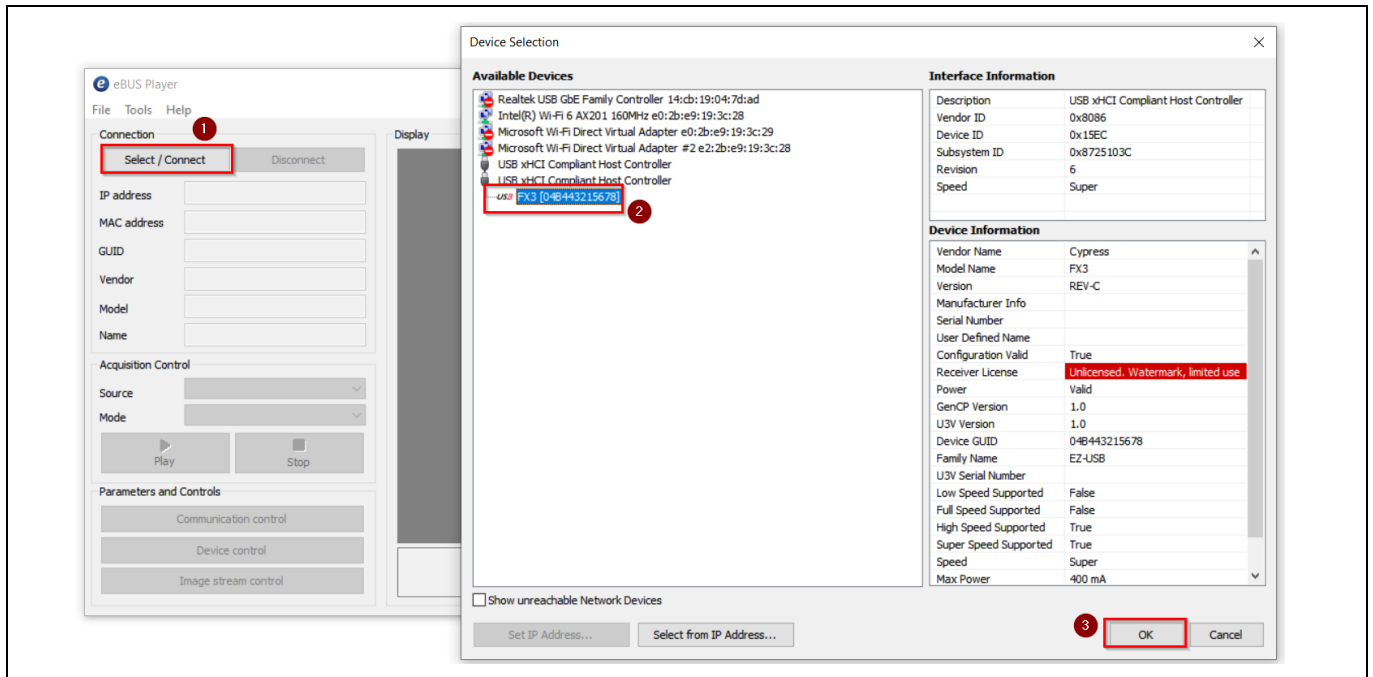

Figure 9 Selecting USB3 Vision device in eBUS Player application
- Open the eBUS Player app. Click **Select/Connect** from the eBUS Player. Verify that FX3 is detected as shown in Figure 9.